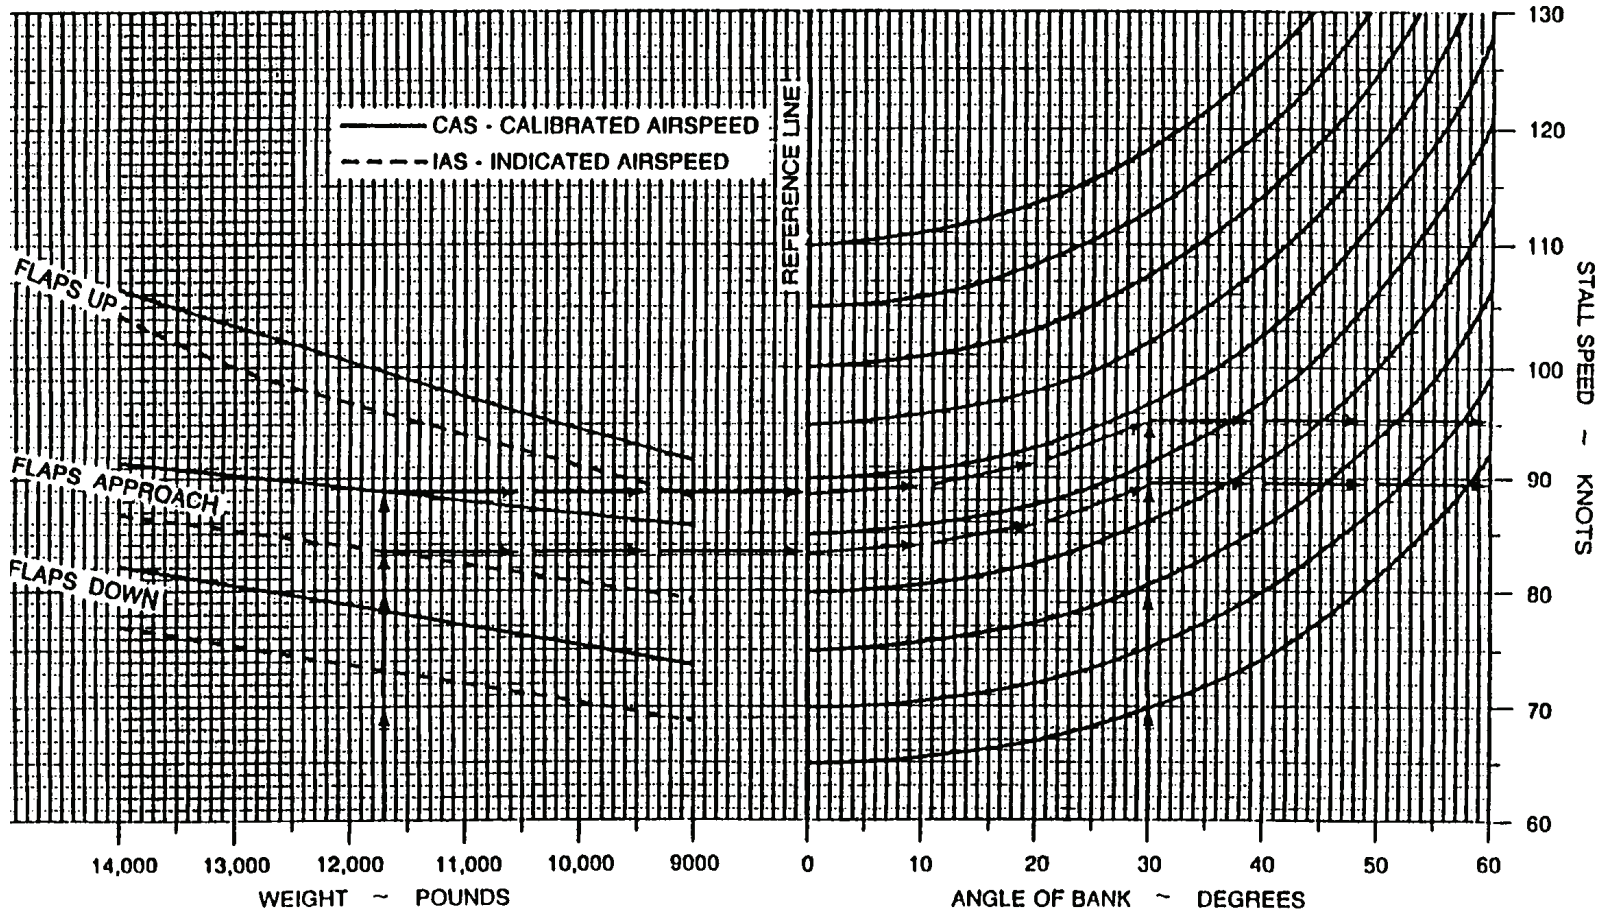

Figure 8A-3. Stall Speeds - Power Idle
b. Power-Off Stalls. The roll tendency is considerably less pronounced in power-off stalls (in any configuration), and is more easily prevented or corrected by adequate rudder and aileron control, respectively. The nose will generally drop straight through with some tendency to pitch up again if recovery is not made immediately. With flaps down, there is little or no roll tendency and stalling speed is much slower than with flaps up. The Stall Speeds chart shows the indicated power-off stall speeds with aircraft in various configurations. Refer to Figure 8A-3. Altitude loss during a full stall may be as much as 1,000 feet.